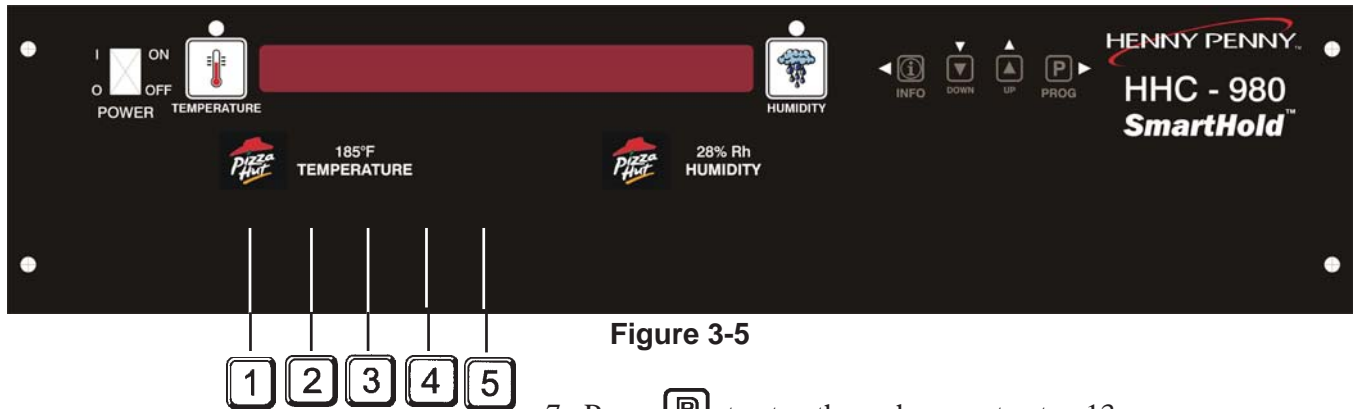

Figure 3-5
6. Using the hidden buttons, (Figure 3-5), enter code of 11221122. (Hidden buttons 1 through 5 left to right)